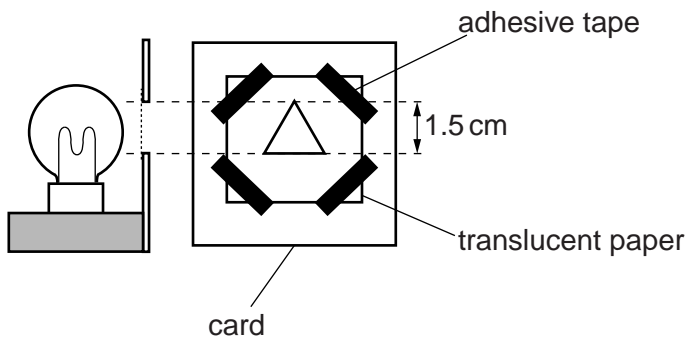

Fig. 1.1
- (iii) Illuminated object consisting of rigid card with a triangular hole of height 1.5 cm arranged with its point uppermost (see Fig. 1.1). The hole is to be covered with thin translucent paper (e.g. tracing paper) secured with adhesive tape.